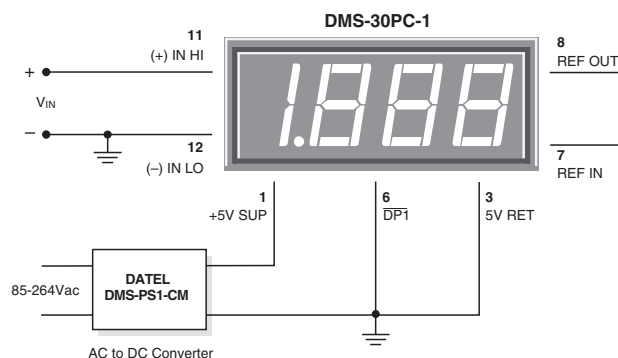

Figure 2. Single-Ended Input Configuration
1. Single-Ended Input Configurations: True single-ended measurements can be made with any DMS-30PC meter. The circuit of Figure 2 avoids problems normally associated with ground-loop currents. Separate ground runs should be used for 5V RETURN (pin 3) and (–) INPUT LO (pin 12). This will ensure that large LED currents will not flow in the wiring that connects V_{IN} to (–) INPUT LO (pin 12). Ground-loop currents can cause unstable readings.